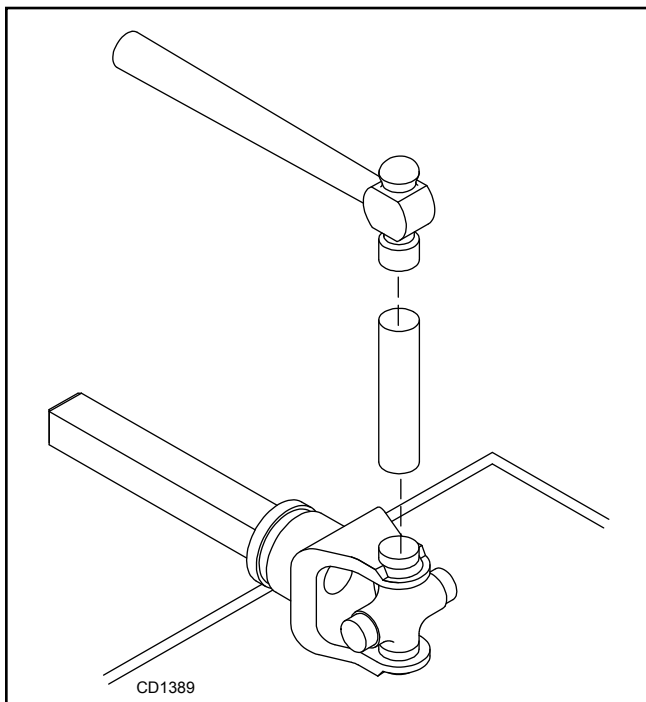

Figure 26. Install Bearing Cups
3. Seat cups by placing a drift or socket (slightly smaller than the cup) on cup and rap with a hammer. See Figure 26. Install snap ring and repeat on opposite cup.